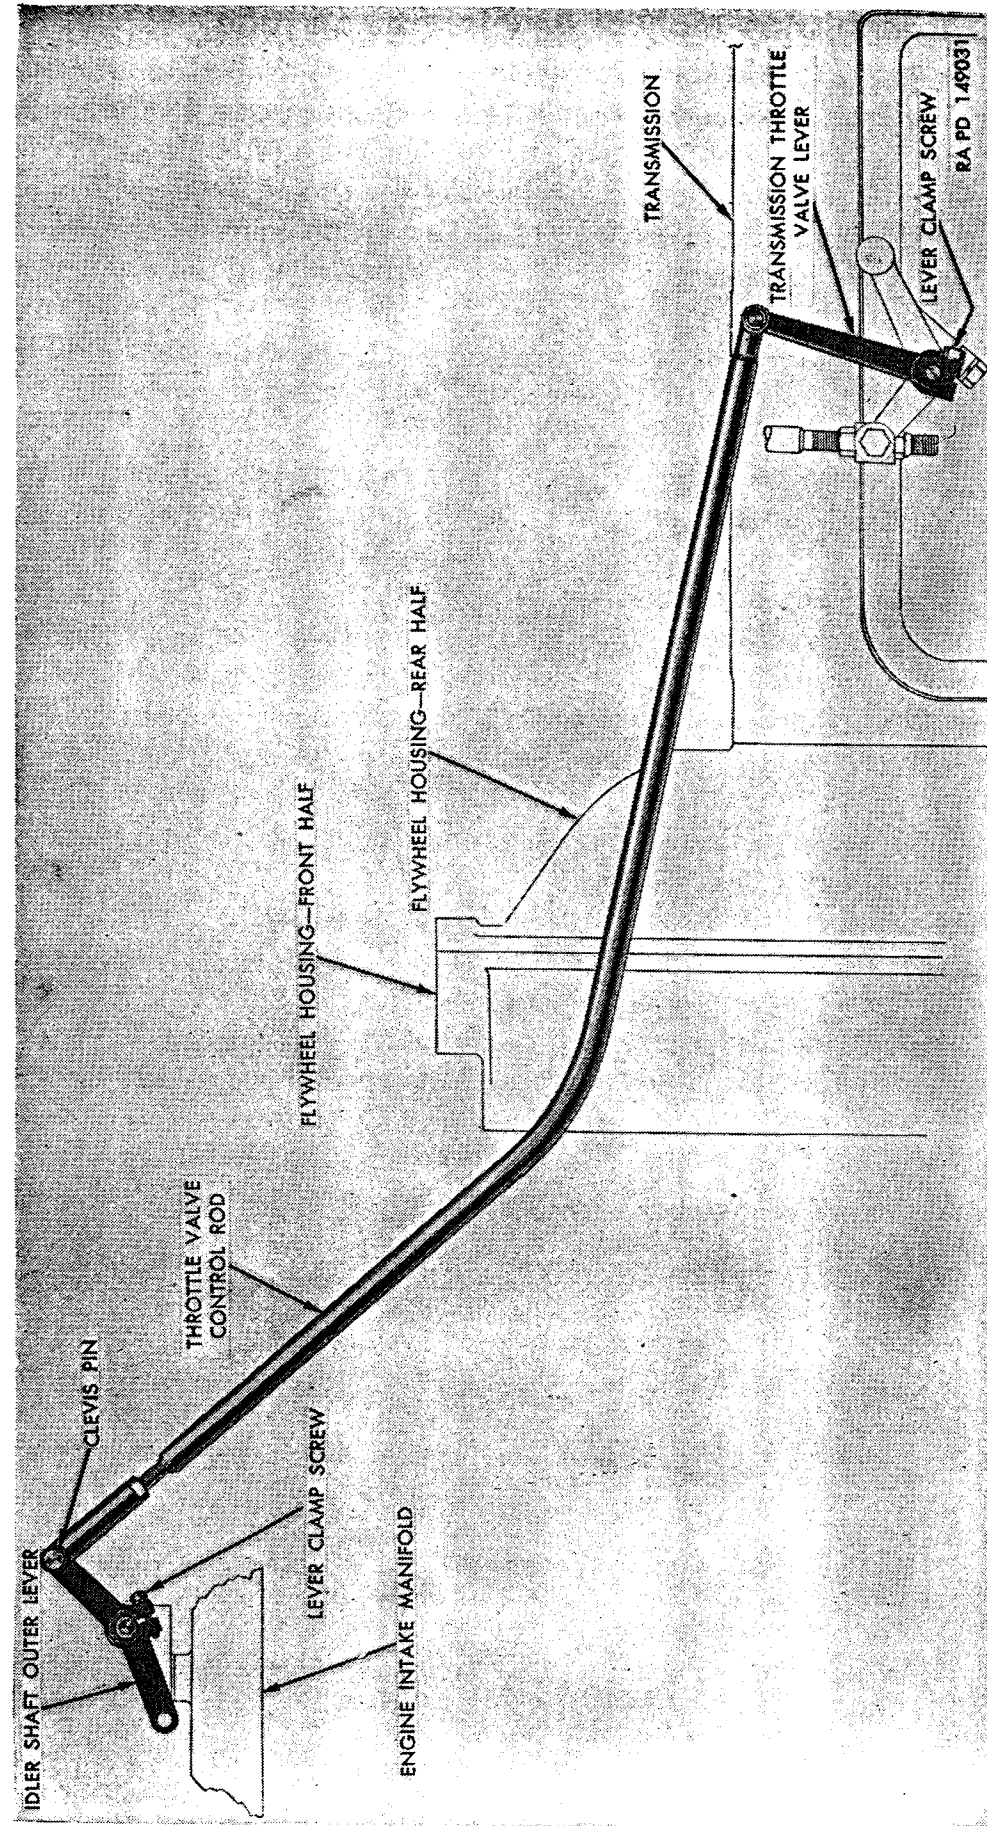

Figure 193. Throttle linkage arrangement (early type)
- (1) *General.* Correct adjustment of throttle valve control lever on side of transmission is very important; therefore, gaging and bending procedures must be carefully performed. Always make adjustments in sequence listed. Before making throttle linkage adjustment, adjust engine idling speed (par. 127*b*) and thoroughly clean and oil all linkage adjustable yokes and clevis pins. Throttle valve control lever is connected to accelerator linkage as shown in figures 193 and 196.
- (2) *On early type vehicles only.* Refer to figure 193.